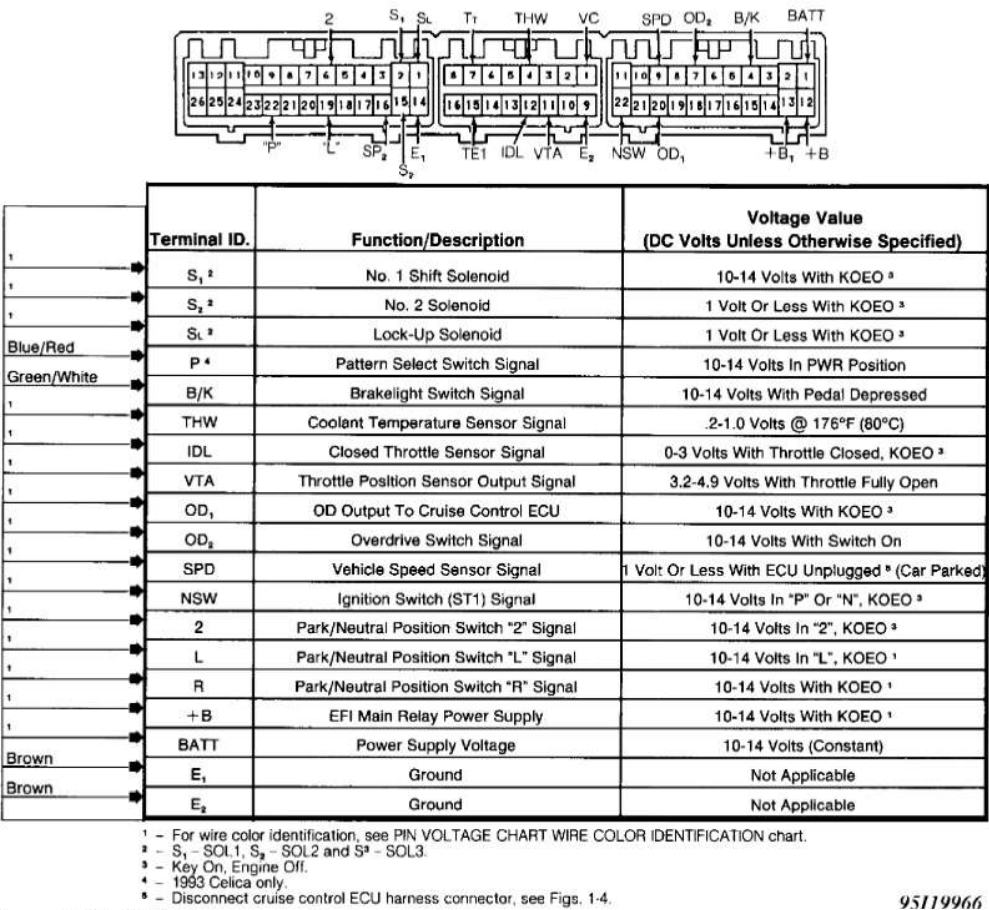

Fig. 21: ECT ECU Harness Connector
3) Turn ignition off. Disconnect ECT ECU harness connector. See Figs. 1-8. Using ohmmeter, check continuity between combination meter harness connector SPD terminal and ECU SPD terminal. Refer to the Fig. 21. If continuity exists, go to next step. If continuity does not exist, inspect and repair circuit as needed.
6) Turn ignition off. Disconnect ECT ECU harness connector. Refer to the Fig. 1-8. Using ohmmeter, check continuity between combination meter harness connector SPD terminal and ECT ECU SPD terminal. See Fig. 21. If continuity exists, replace combination meter and retest. If continuity does not exist, inspect and repair circuit as needed.
1) Obtain access to ECT ECU, located near glove box. See Figs. 1-8. Using ohmmeter, check for continuity between terminal SP2 of ECT ECU connector and body ground. See Fig. 21.
1) Access ECT ECU. See Figs. 1-8. Using ohmmeter, check resistance between terminal S1 and body ground with connector removed from ECT ECU. See Fig. 21.
1) Access ECT ECU. See Figs. 1-8. Using ohmmeter, check resistance between terminal S2 and body ground with connector removed from ECT ECU. See Fig. 21.
3) Connect voltmeter between terminals B/K and E1 on ECT ECU connector. See Figs. 21. No voltage should exist with brake pedal released. Approximately 10-14 volts should exist with brake pedal depressed.
8) If voltage increases from zero to 2 volts, check for 10-14 volts between terminals 2 and E1 on ECT ECU with connector connected and shift lever in "D" position. See Fig. 21. If 10-14 volts exist, check for defective park/neutral position switch. If switch is okay, inspect and repair circuit(s) between switch and ECT ECU. See appropriate wiring diagram in WIRING DIAGRAMS. If 10-14 volts does not
9) Check for 10-14 volts between terminals "L" and E1 on the ECT ECU with the connector connected and shift lever in "D" position. See Fig. 21. If 10-14 volts exist, check for defective park/neutral position switch. If switch is okay, inspect and repair circuit(s) between switch and ECT ECU. Refer to the appropriate wiring diagram in WIRING DIAGRAMS. If 10-14 volts do not exist, replace ECT ECU.
3) Access ECT ECU. See Figs. 1-8. Connect voltmeter between terminals B/K and E1 on ECT ECU with connector connected. See Fig. 21.
6) On 1993 Celica, connect voltmeter between terminals P and E1 on ECT ECU with connector connected. See Figs. 21. Check voltage with pattern select switch in POWER (depressed) and NORMAL (released) operating positions (if applicable).
4) If no voltage exists, check for 10-14 volts between terminals L and E1 on ECT ECU with the connector connected, the shift lever in the "D" position and with ignition on. See Fig. 21. If 10-14 volts exist, check for defective park/neutral position switch. Refer to PARK/NEUTRAL POSITION (PNP) SWITCH under COMPONENT TESTING.
8) If voltage increases from zero to 7 volts between terminals L and E1, solenoids may be faulty. See SOLENOIDS under COMPONENT TESTING. If solenoids are okay, disassemble and inspect transmission. If voltage increases from zero to 4 volts between terminals L and E1, connect voltmeter between terminals OD2 and E1 on ECT ECU with connector connected. See Fig. 21.
3) If voltage is not as specified, access ECT ECU. Refer to the Figs. 1-8. Connect voltmeter between terminals B/K and E1 on ECT ECU with connector connected. See Fig. 21.